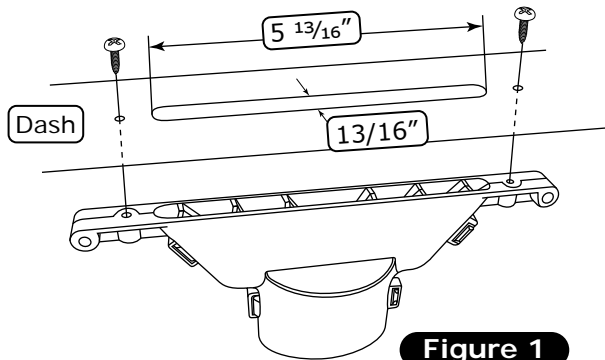

Figure 1
- Before beginning, remove cowl vent handle and glove box to ease installation. If the dash is easily removable, remove it now. Check for, and fill in any holes in the firewall and floor. Insulate and seal firewall, floor, door panels, and headliner to reduce the amount of heat entering the car. Figures 1 and 2, show the general location of the defrost ducts. Locations will vary. If your module is equipped with the defrost option, install the ducts now.
3. Brackets are furnished to mount the evaporator case. Attach to the firewall as shown in Figure 1, below.
4. The cowl vent handle will work if moved to the side. You can also convert to electric or cable operation. If you close off the cowl vent, the module will fit higher in the car. **NOTE: To mount the module higher, simply determine the new location, mark and re-drill the bracket to fit as described in Step 6 (See Figure 1, below). Be sure to allow sufficient clearance for routing the duct hoses.**